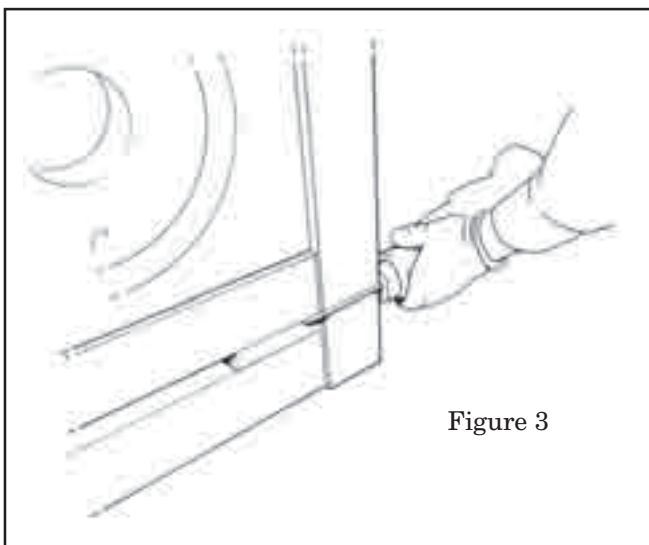

Figure 3
1. Cut the four corners of the crate as shown in Figure 3.